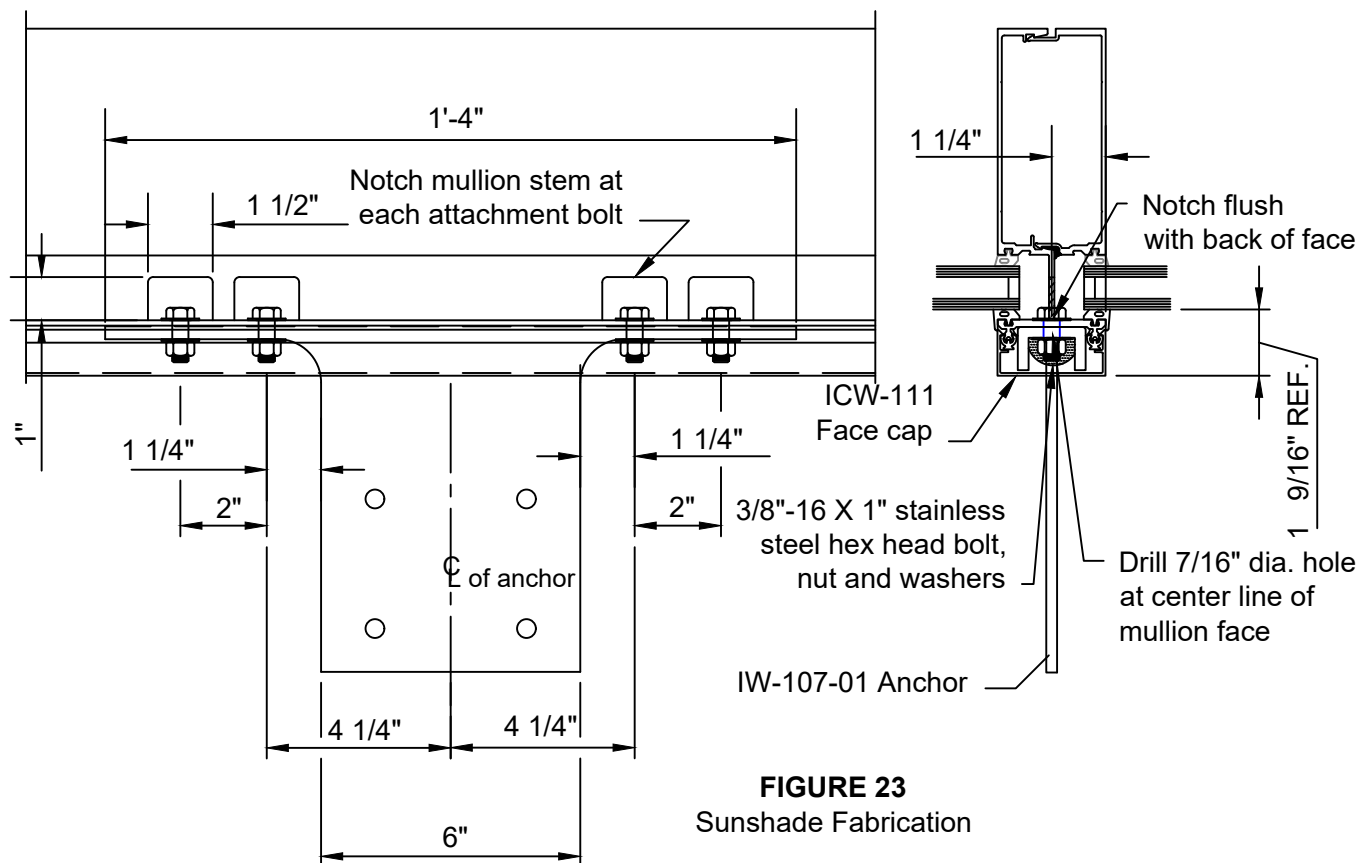

FIGURE 23
- 1 Mill cutouts from stem of mullion at location of each anchor bolt, 4 bolts shown are for standard application and your project may require additional fasteners based on engineers review. Cutouts will be 1-1/2" wide by 1" deep and must be flush with back of mullion face. Location will vary depending on project requirements, pattern shown is for standard anchor only. SEE FIGURE 23
- 2 Drill face of mullion with 7/16" Ø holes for 3/8" anchor bolts. SEE FIGURE 23
- 6 ICW-111 face cap required for projects with sunshade installation. Face cap will be notched at each anchor. SEE FIGURE 23